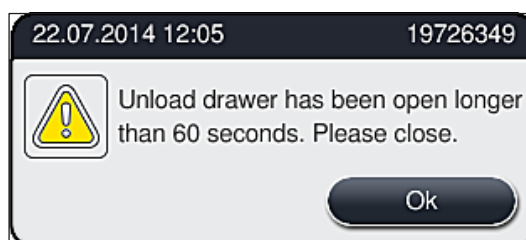

Fig. 87
- The user receives an information message (→ "Fig. 87") if the unload drawer is open for longer than 60 seconds.